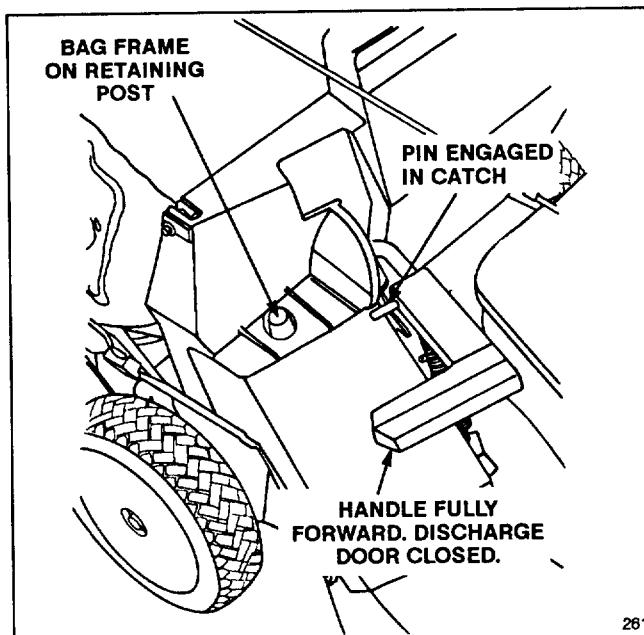

Figure 12
2. Ensure chute door handle is fully forward and pin is engaged in catch (Fig. 12).
3. INSTALLING BAG—Slide hole in bag frame onto retaining post on housing (Fig. 12) and set rear of bag frame onto lower handle.
5. **EMPTYING BAG**—Stop engine and wait for all moving parts to stop. Raise discharge door handle and move it forward to engage the locking pin with catch (Fig. 12). Grasp handle at front and rear of bag and lift bag off mower. Gradually tip bag forward to empty clippings.